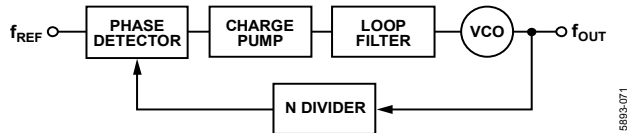

Figure 91. Basic PLL
A PLL is a feedback system that combines a phase detector (PD), a loop filter, and a voltage controlled oscillator (VCO) that is so connected that the oscillator maintains a constant frequency (or phase angle) relative to the reference signal. The functional block diagram of a basic PLL is shown in Figure 91.